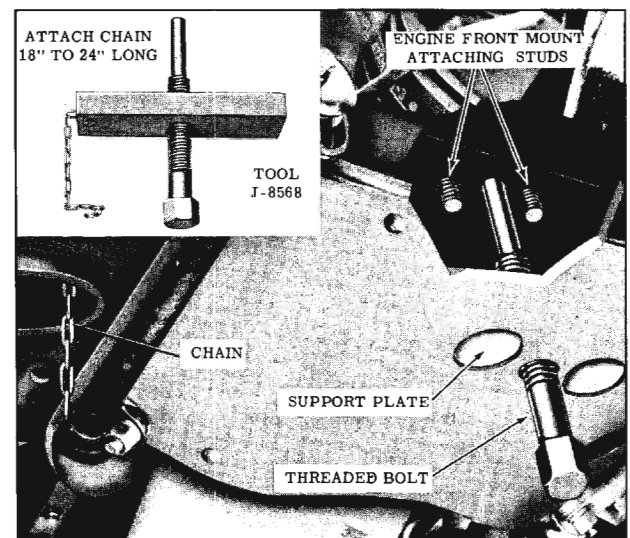

Fig. 8-21 Raising Front of Engine
NOTE: Attach a chain 18 to 24 inches long to Tool J-8568 to aid in positioning the Tool in and out of the front cross member. (Inset, Fig. 8-21)
- Insert the threaded bolt into the support plate. Rotate the threaded bolt until it contacts the engine front mount. (Fig. 8-21). Raise engine until proper clearance is obtained.